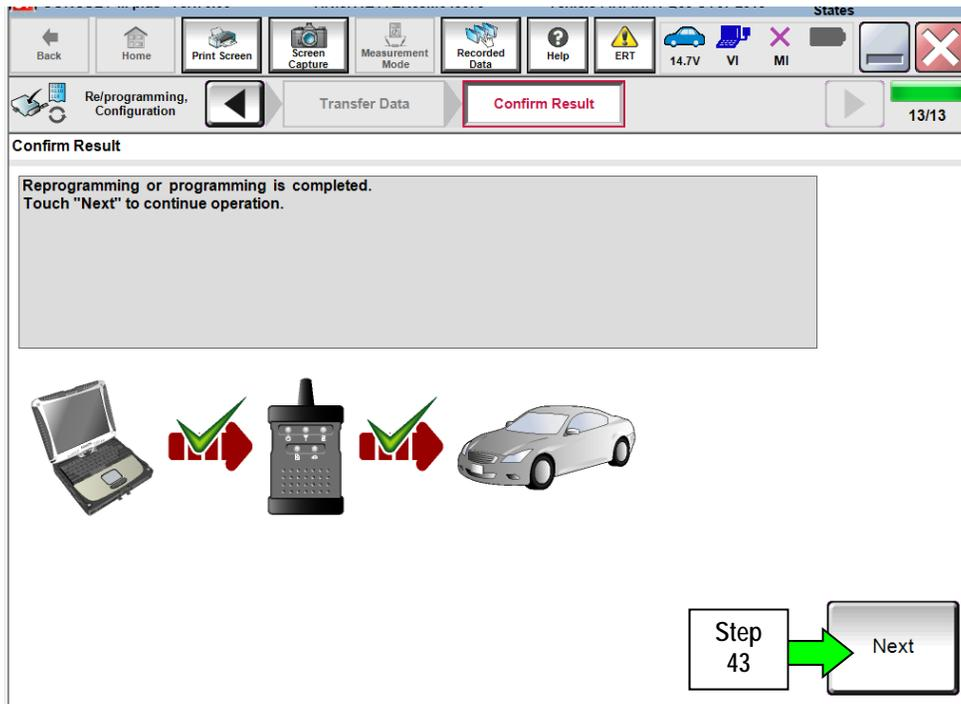

Figure 24
41. When the screen in Figure 24 displays, the reprogramming is complete.
NOTE: If the screen in Figure 24 does not display (indicating that reprogramming did not complete), refer to the information on the next page.